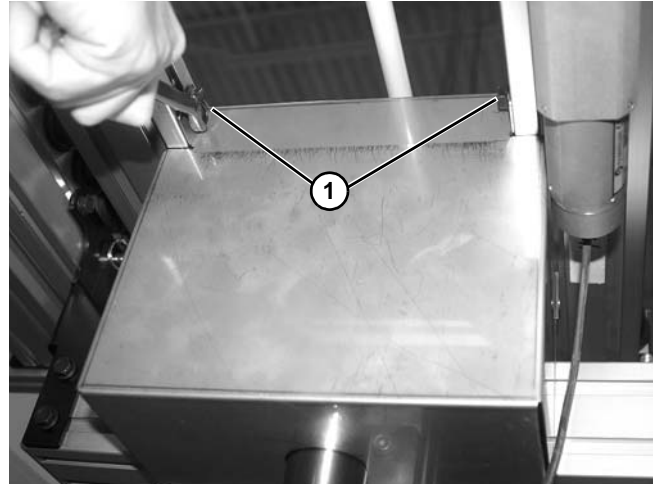

Figure 87
1. Remove optional guarding by loosening two screws (**Figure 87, item 1**).